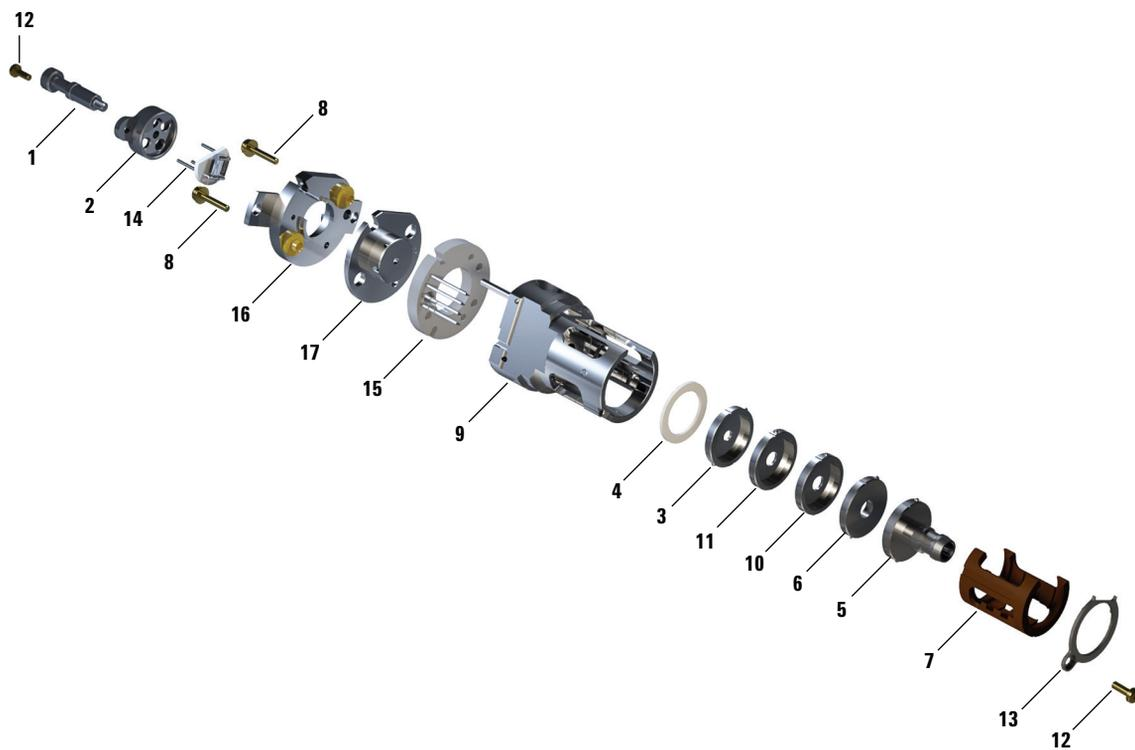

Figure 55 Assembling the EI HES
Refer to the exploded parts view Figure 55 and the EI HES parts list Table 20 on page 160 while using this procedure.
- 3 Insert the lens stack encased in the insulator into the source body. (See Figure 55 on page 160.) The engraved numbers face the full opening extending to the end of the source body. Verify that the ceramic is sitting flush at the end of the source body.
Table 20 Parts list for EI HES (Figure 55)
Table 20 Parts list for EI HES (Figure 55) (continued)